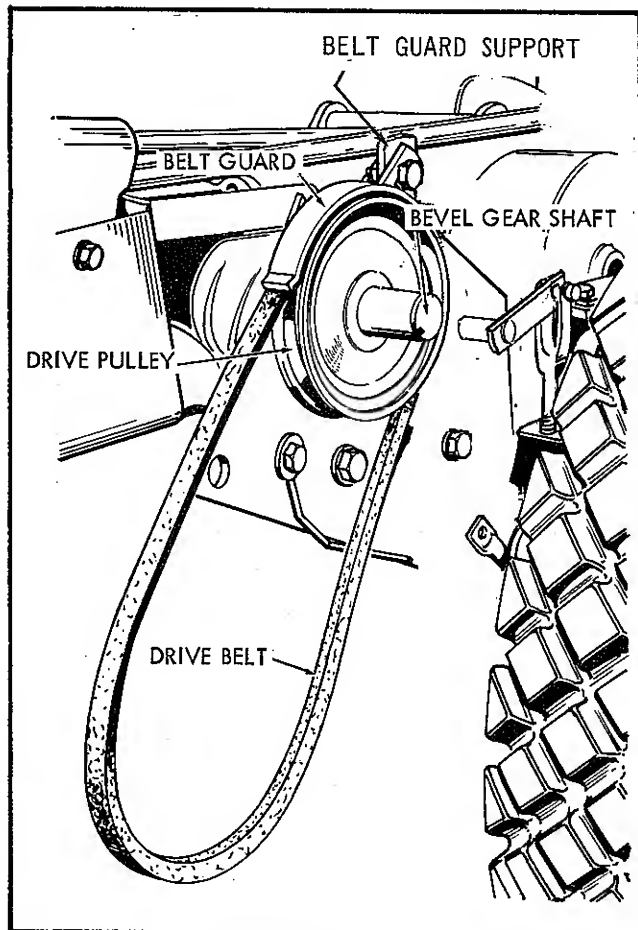
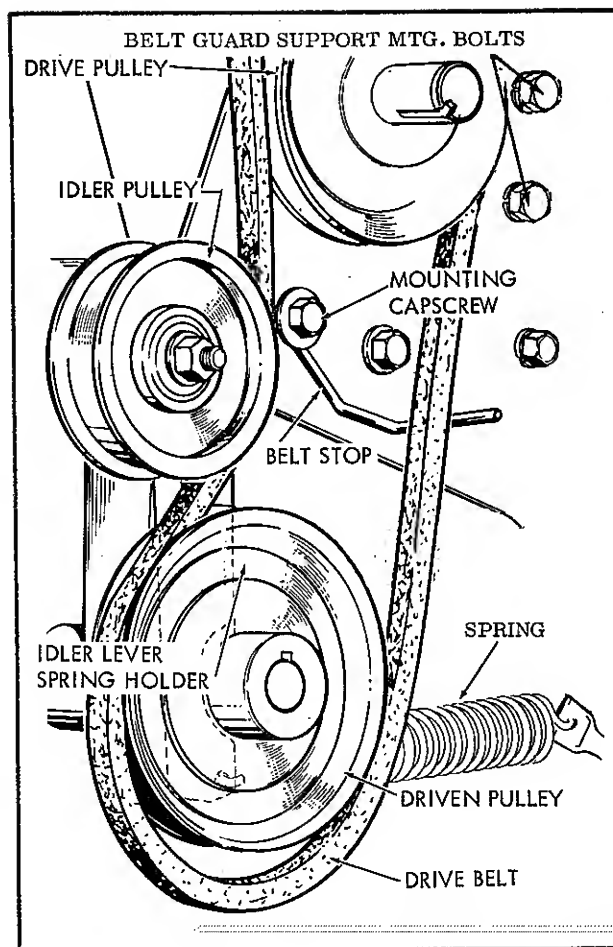

Fig. 1
Fig. 5
1. Mount Drive pulley to shaft of bevel gear assembly (See Figure 1) and secure in place with key and set screw. Hub of Drive pulley is to face inward. Place drive belt on Drive pulley and mount belt guard support to inside surface of side plate nearest drive pulley. See Figure 5 for mounting bolt location. Attach the belt guard to the guard support as shown in Figure 1. Allow approximately $\frac{3}{16}$ " clearance between belt and guard.
5. Remove front hex cap screw from Pull Bar. Replace with stud 157273 provided. Short end inserted. Slip on Handle Assembly & tighten with hex head locknut to permit free movement of handle. Mount "V" belt in place on driven pulley as shown in figure 5 and attach spring to hole provided in the bottom of the Bracket Assembly. Hook other end of the spring to the Handle Assembly. Mount belt stop as shown with 3/8" bolt, flat washer, lockwasher and hex nut. When Implement is attached
to tractor with idler pulley engaged, 1/8" clearance between belt stop and back of "V" belt is required. Note: "V" belt runs under idler pulley. See Figure 5.